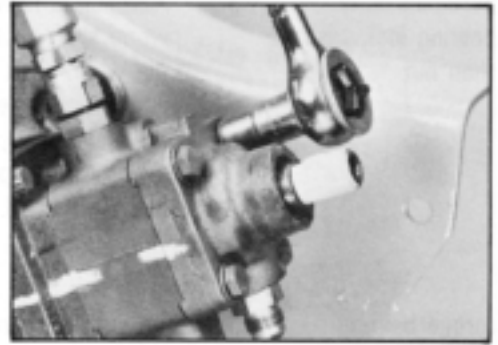

Figure 28
3.3 Remove four upper cover bolts (6) and washers (6A). SEE FIGURE 28. 9/16 inch socket required.